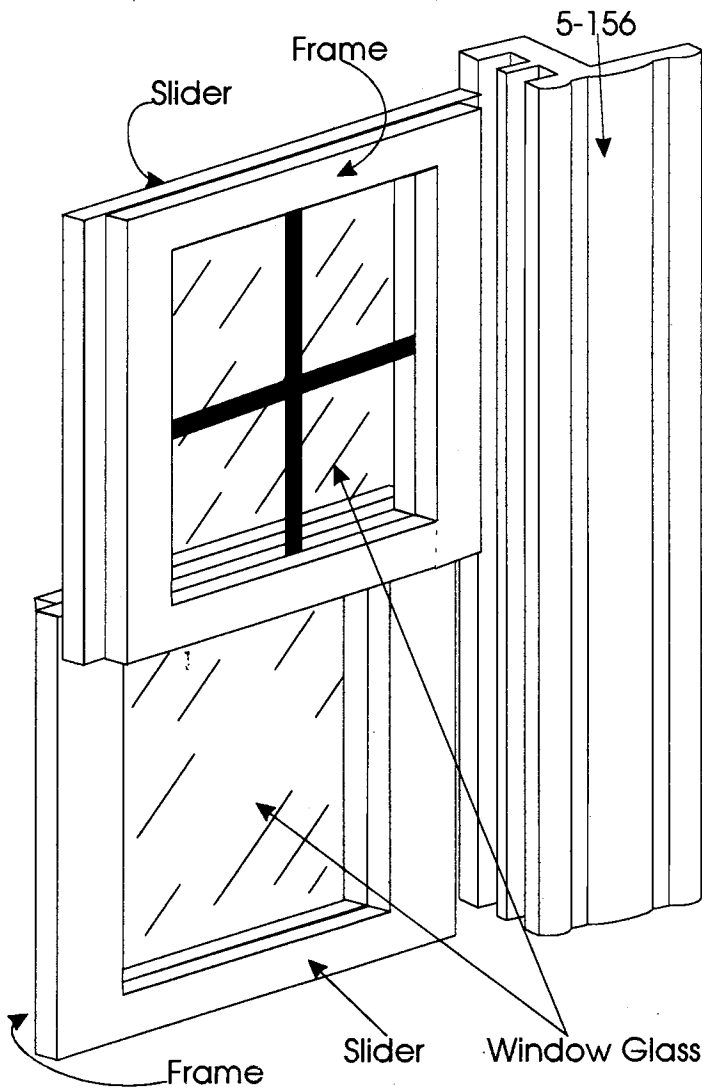

Figure 22
3. Place the clear window assembly in the inside slot of the molding and tape into position with bottom edges flush. Place silkscreened window in the outside slot and tape into position with top edges flush. Fig. 22.